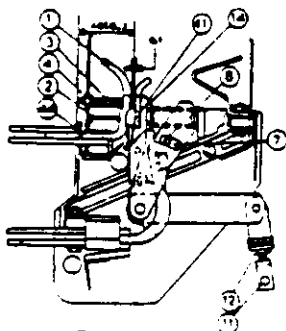

Fig. 26
### B. Fixed and Moving Contacts Fig. 26 & 26A
3. With new contact pads installed close breaker and measure gap between tops of contact pads. The gap may be adjusted by varying the contact pressure. Referring to Fig. 26 turn the pole closing/insulating connecting rod (11) clockwise to reduce pressure and counter clockwise to increase. After obtaining the required 0.1mm spacing in the axis of the pads lock the connecting rod (11) with the blocking nut (12).